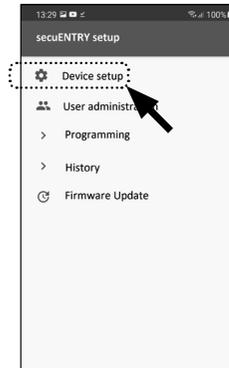

Fig. 7
- In the following menu, tap on "Device Setup" (Fig. 7). From here you can add and setup secuENTRY units to the app.